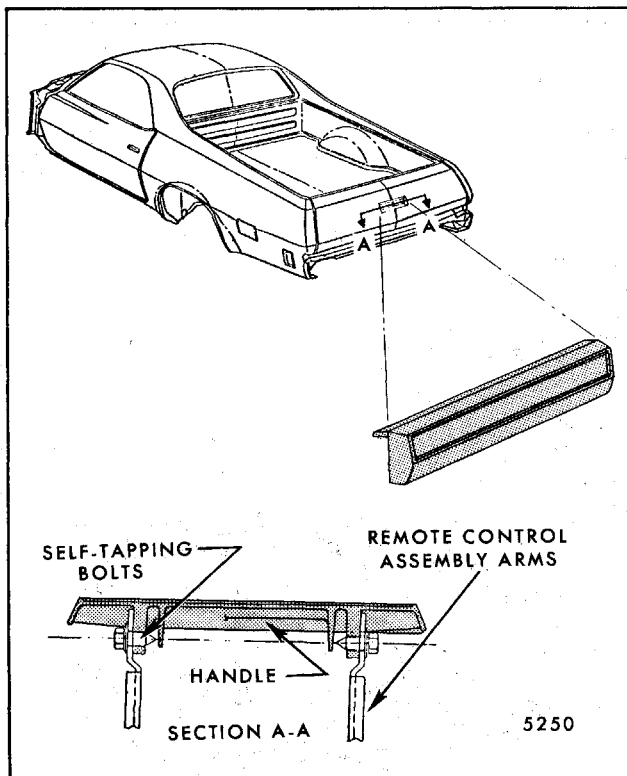

Fig. 7-122 - Tailgate Outside Handle
3. Remove two self-tapping bolts securing outside pull handle to lock remote control assembly and remove handle (Fig. 7-122).